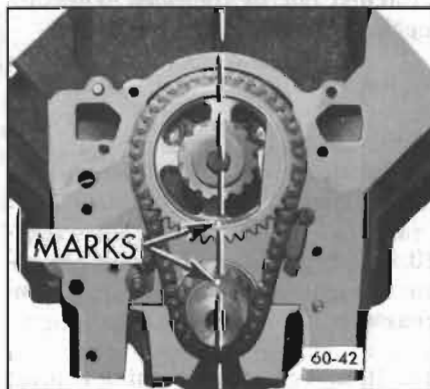

Figure 60-42—Installing V-6 Timing Chain and Sprocket
1. With timing chain cover removed (subpar. a above) temporarily install crankshaft pulley bolt and washer in end of crankshaft. Turn crankshaft so sprockets are positioned as shown in Figure 60-42. Doing so will make it easier to reinstall parts. Remove crankshaft pulley bolt and washer using a sharp rap on the wrench handle to start the bolt out without changing position of sprockets.
2. Temporarily install camshaft sprocket on camshaft. Turn camshaft until timing mark is facing down. Remove sprocket. See Figure 60-42.
3. Assemble timing chain on sprockets and slide sprocket chain assembly on the shaft. Keep the timing marks in their respective positions and in line with the sprocket hubs. See Figure 60-42.